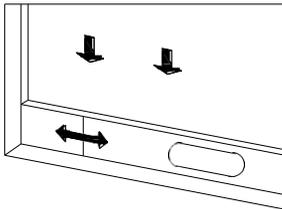
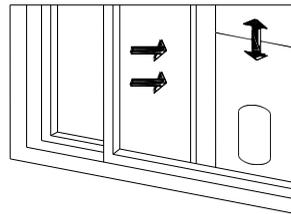

Figure 2
Figure 3
- 1) Half open the window , and mount the window sealing plate assembly to the window (as shown in Fig.2 and Fig.3). Components can be placed in horizontal and vertical direction.